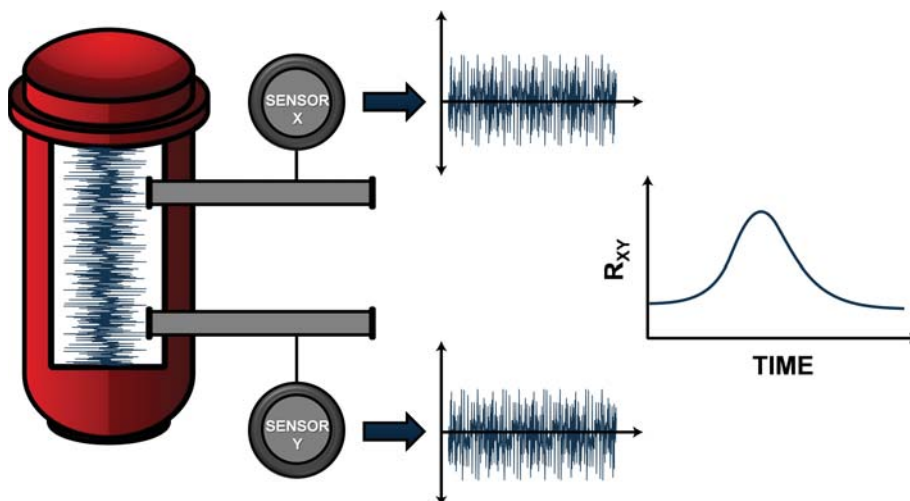

Figure 3. Principle of Cross Correlation Flow Sensor.
4) **Cross Correlation Flow Sensors:** Figure 3 illustrates the principle of cross correlation flow measurement. Basically, signals from any two sensors that are located a distance apart can be cross correlated (i.e. multiplied) to measure the time